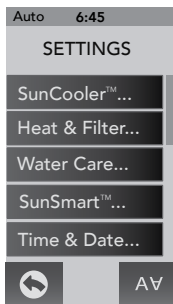

Figure 12.8a
From the Settings Menu, tap **SunSmart™ ...** to enter the programming options, Figures 12.8a and 12.8b. Make sure that you have downloaded the Wi-Fi App for this setup.
1. From the “Settings” menu, tap **SunSmart™ ...** (Figure 12.8a) to enter the menu.